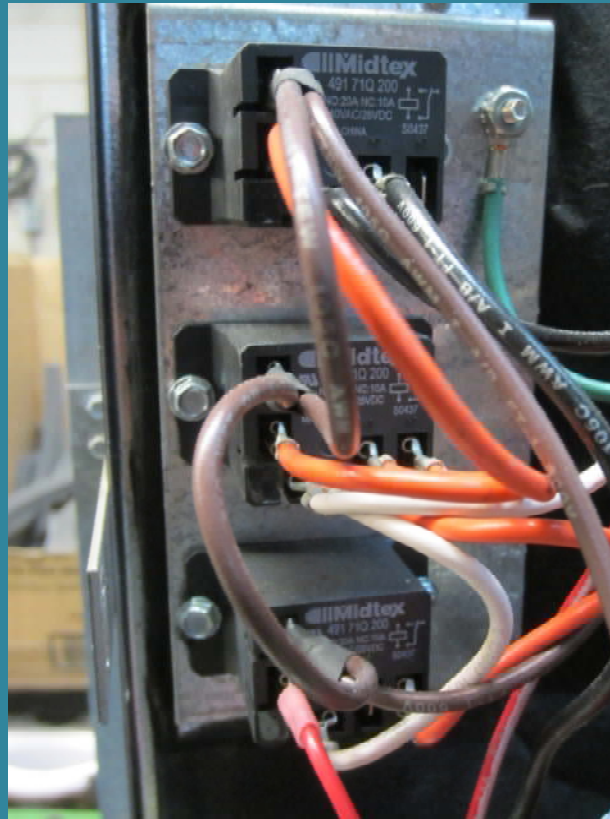
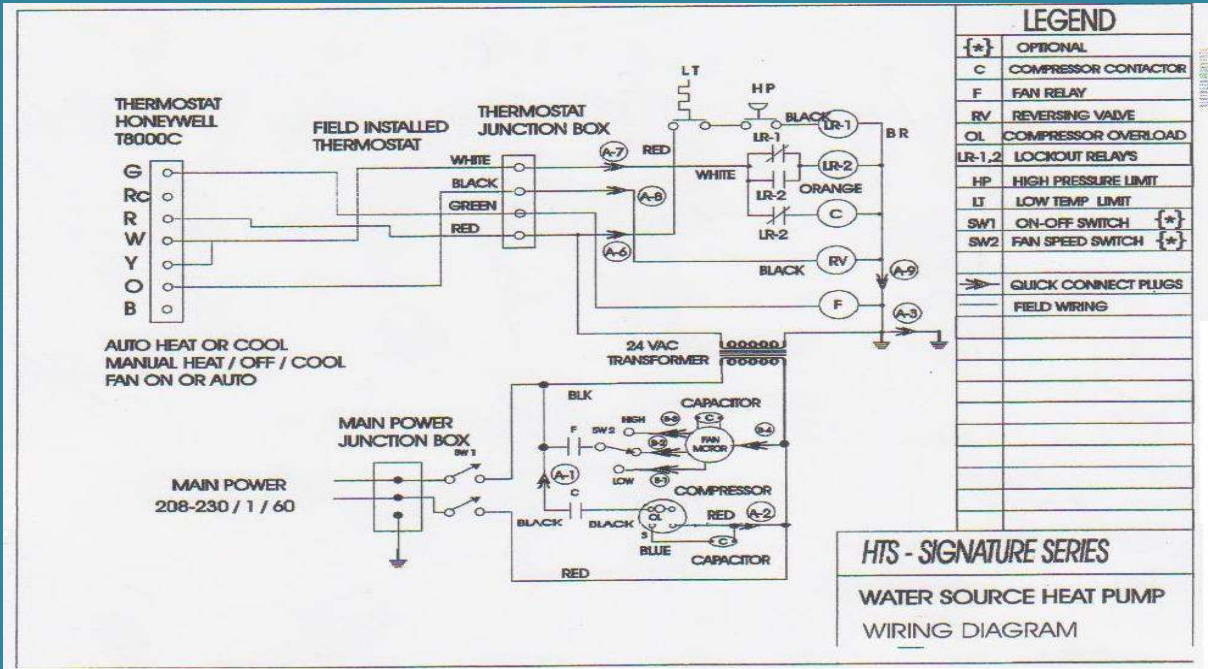

Figure 1 – HTS Signature HP “ELECTROMECHANICAL” Circuit
Figure 2 – HTS Signature HP “ELECTROMECHANICAL” Circuit
- a) The discrete electromechanical components as depicted in **Figure 1** making up its control circuitry. The circuit diagram is shown in **Figure 2** and located internally in the chassis.